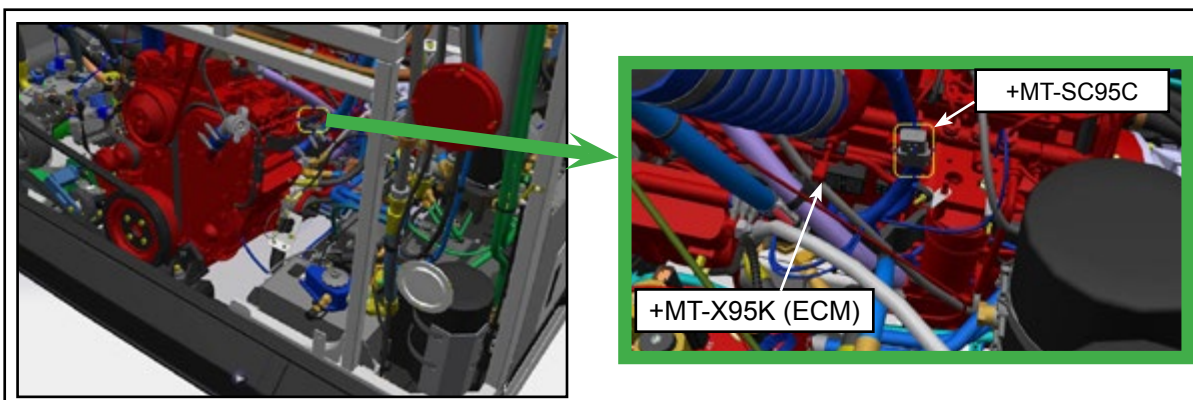

Figure 5 - Location of the +MT-X95K (ECM) and +MT-SC95C Connectors in the Engine Compartment
- 1.9. Locate the +MT-X95K (ECM) electrical connector in the engine compartment. See Figure 5.